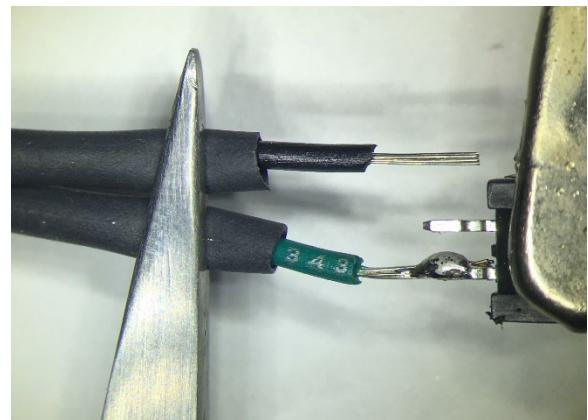

Figure 65 Soldering wires to 2-pin header
- See Figure 65 for an illustration of this process